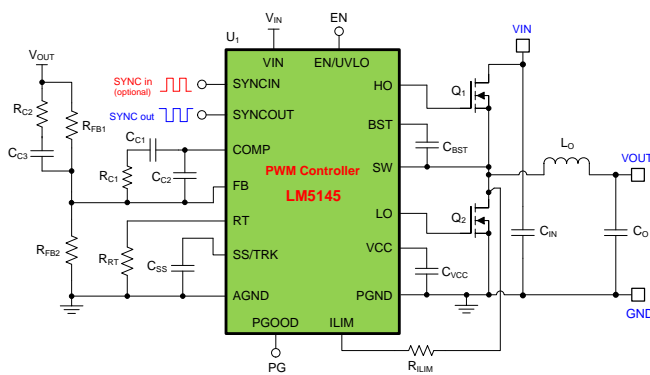

Figure 2. Synchronous buck DC/DC regulator with wide input voltage range
A small form-factor power solution balancing efficiency and size is vital. Figure 2 shows a DC/DC buck regulator solution with PWM controller U_1 driving discrete power MOSFETs Q_1 and Q_2 . The choice of controller hinges initially on input voltage and switching frequency specifications. Choosing a controller with a wide V_{IN} range and high line transient immunity offers an outsized voltage rating and operating margin to accommodate peak voltage transients.
Typically, an MCU or FPGA provides the APT voltage setpoint command for the PA in digital format, which the power supply should readily interpret. For example, a variable duty cycle PWM output from an MCU could be RC filtered and resistor-coupled to the feedback (FB) pin of the DC/DC regulator. Another option is to apply a DC control voltage at the tracking input of the controller (SS/TRK in Figure 2) for output voltage adjustment.